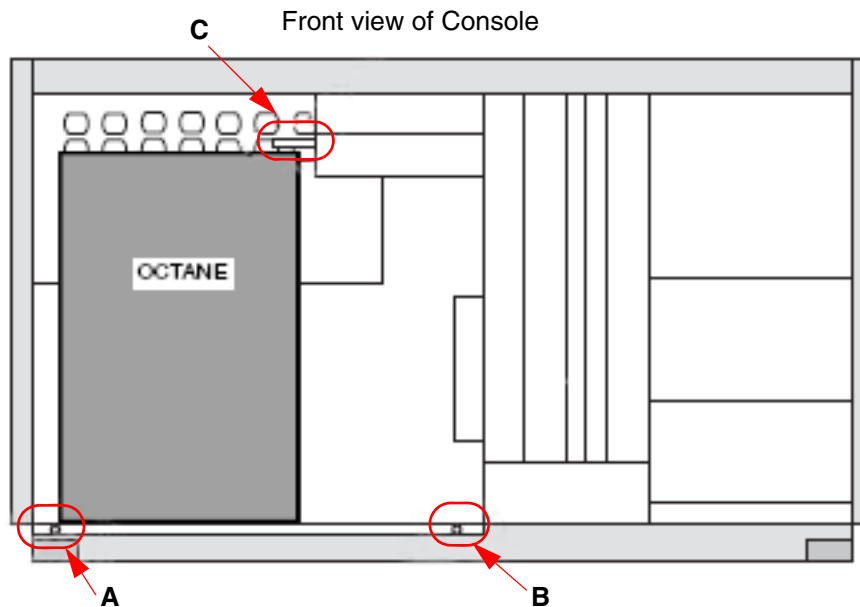

Figure 2-3 Octane Slide Drawer
- 1.) Remove the screws at locations A and B, and slide the drawer forward (see Figure 2-3).
- Ensure that the Octane computer clears this point without catching on the SCSI cable connector. (Refer to Location C on Figure 2-3).